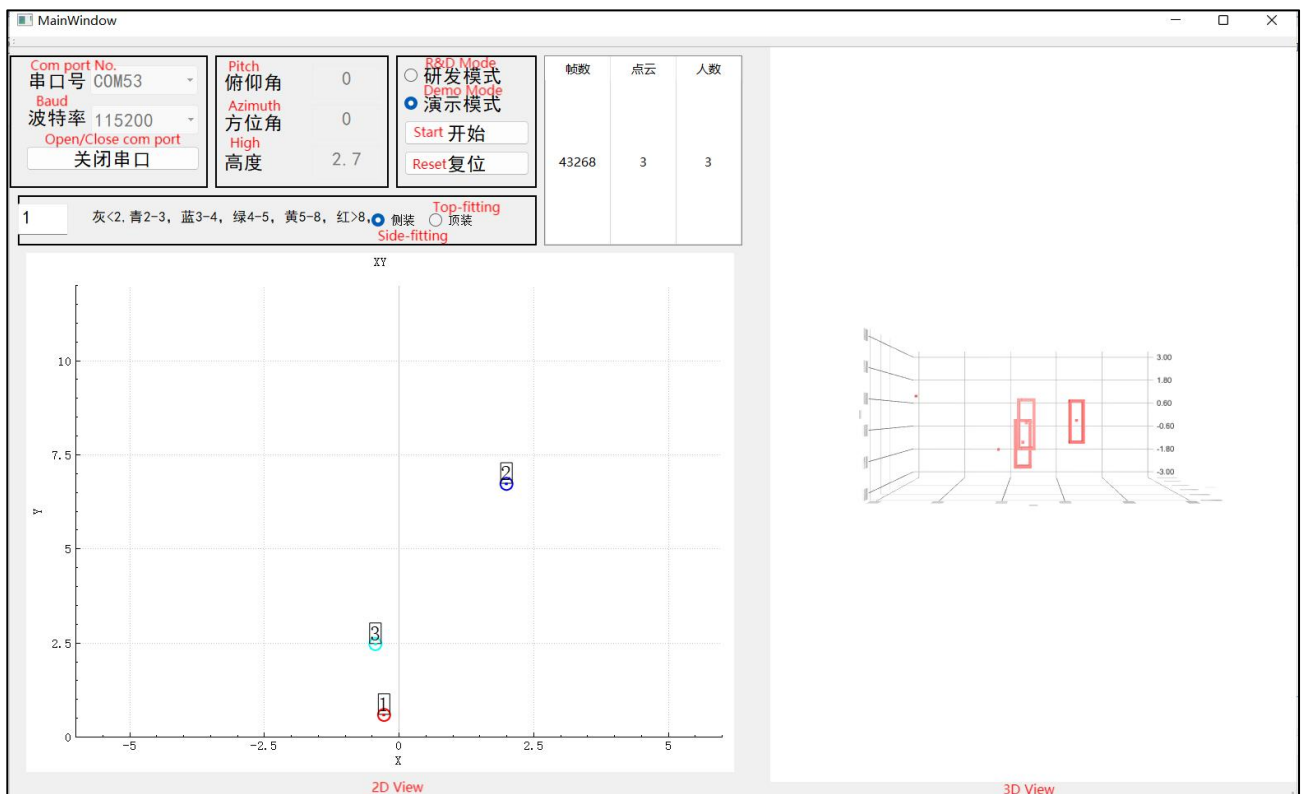

Figure3 Upper computer diagram
- 2) Select the serial port number as shown in Figure 3, the default baud rate is 115200, click "Open Serial Port";
- 6) As in Figure 3, the left side is 2D coordinates display, the right side is 3D display;